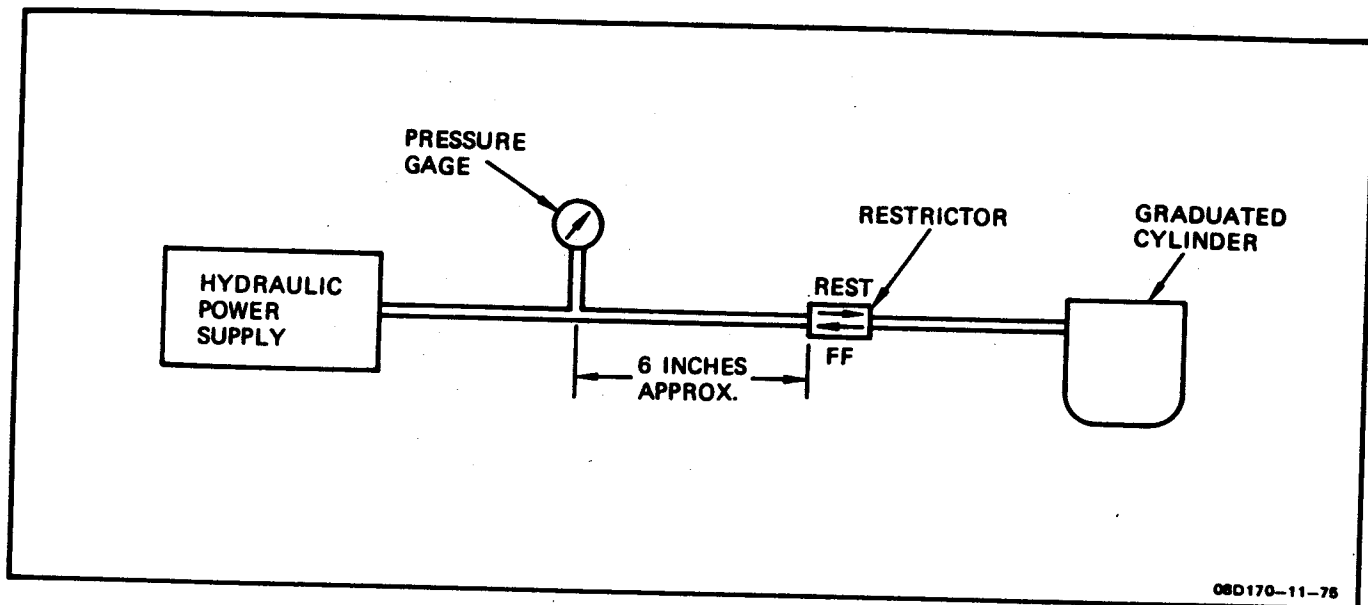

Figure 9-13. Trailing Edge Flap Restrictor Test Setup
a. Install restrictor in test setup as shown in figure 9-13. Connect pressure gage within 6 inches of restrictor.